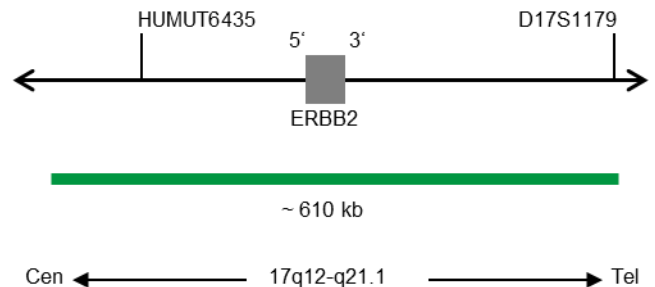

Fig. 1: ERBB2 Probe map (not to scale)
- ZyGreen (excitation 503 nm/emission 528 nm) labeled polynucleotides (~10.0 ng/μl), which target sequences mapping in 17q12-q21.1\* (chr17:37,572,531-38,181,308) harboring the ERBB2 gene region (see Fig. 1).